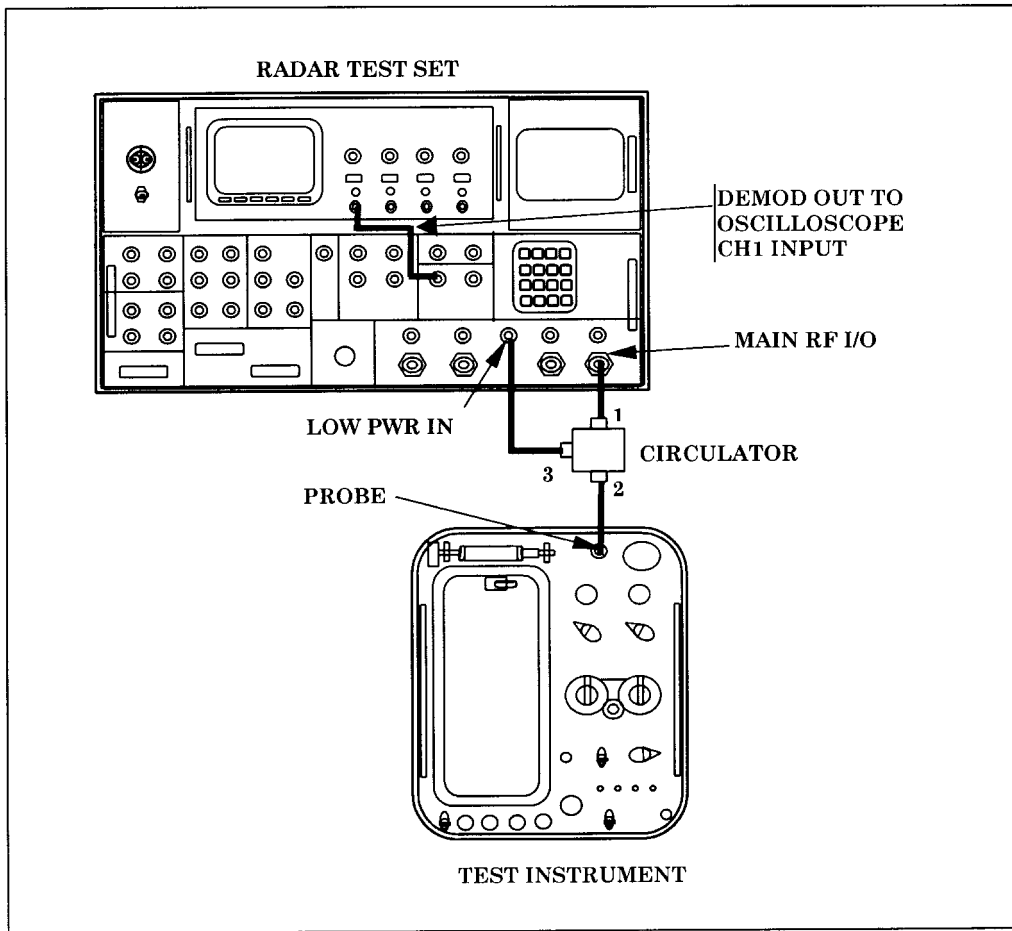

Figure 1. Preliminary equipment setup.
- b. Set switches as listed in (1) through (5) below:
- (1) **FUNCTION** switch to **SELF-TEST**.
- (2) **MODE** switch to **1**.
- (3) **REFERENCE CODE** switches to **7777**.
- (4) **ISLS** switch to **OFF**.
- (5) **MODE 4** switches to **DOWN** position.
- g. Connect equipment as shown in figure 1.